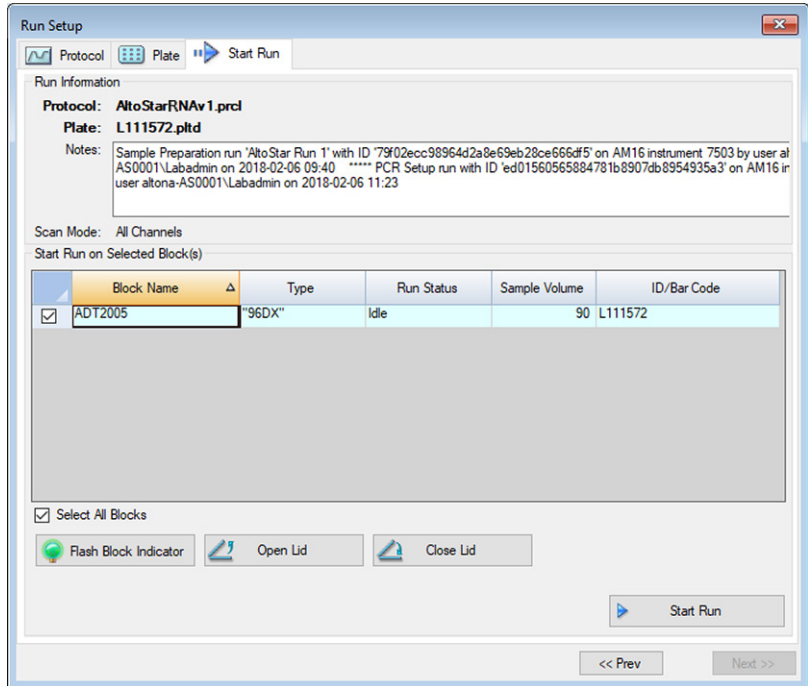

Figure 27: Run Setup dialog
5. Scan the PCR Plate barcode with the handheld barcode scanner to automatically select and open the correct LIMS file. The **Run Setup** dialog is displayed (see Figure 27).
- Click **Open Lid** to open the lid of the CFX96™ DW Dx (see Figure 27).
- Close the CFX96™ DW Dx by clicking the **Close Lid** button in the **Run Setup** dialog (see Figure 27).
- Start the PCR Run by clicking the **Start Run** button in the **Run Setup** dialog (see Figure 27).